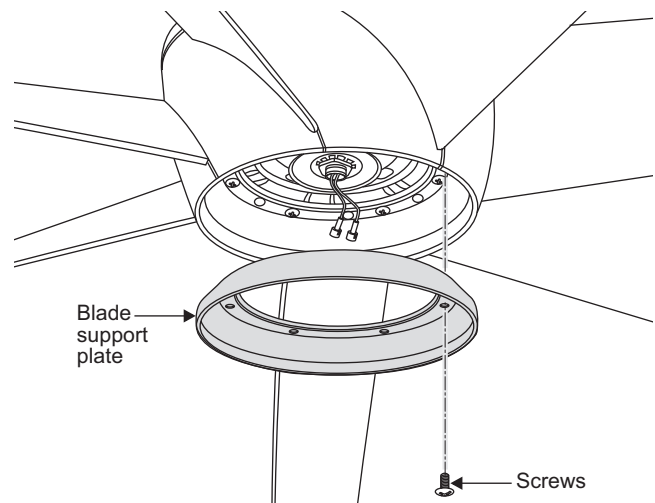

Fig. 16
Attach the blade support plate onto the blade arms using the screws(7) provided after completed installing all blades with arms onto motor in order to secure the wall of blades well. (Fig. 16)